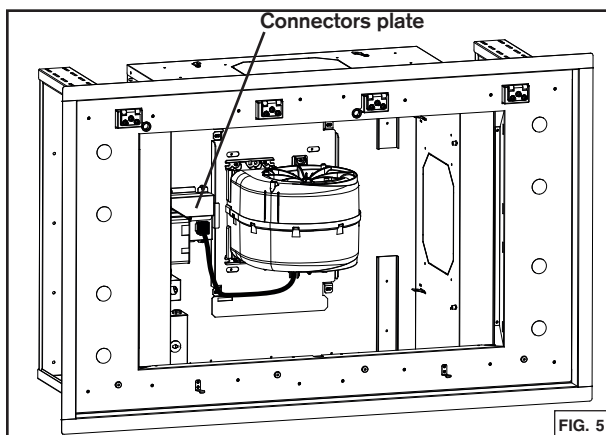

FIG. 5
3. Secure each support frame to the wooden hood support frame using 10 # 8 x 1-3/8" screws provided. See FIG. 5.